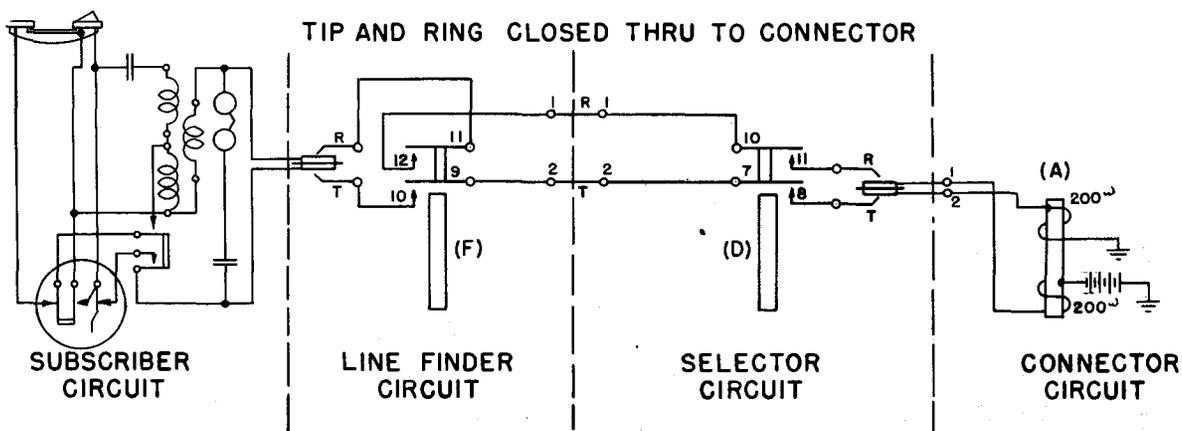

FIG. 8
Tip (T) and ring (R) closure to connector (Fig. 8) is from ground on the (A) relay, 200 ohm winding, in the connector, tip (T) terminal of the selector bank, and wiper (T), 8-7 contacts of (D) relay, terminal 2 of the switch jack out over the tip (T) lead through the line finder (F) relay contacts and subscriber loop back over the (R) leads, terminal 1 of the switch jack, 10-11 contacts of the (D) relay, wiper (R) and ring (R) terminal of the selector bank, through the 200 ohm winding of (A) relay in the connector to battery.